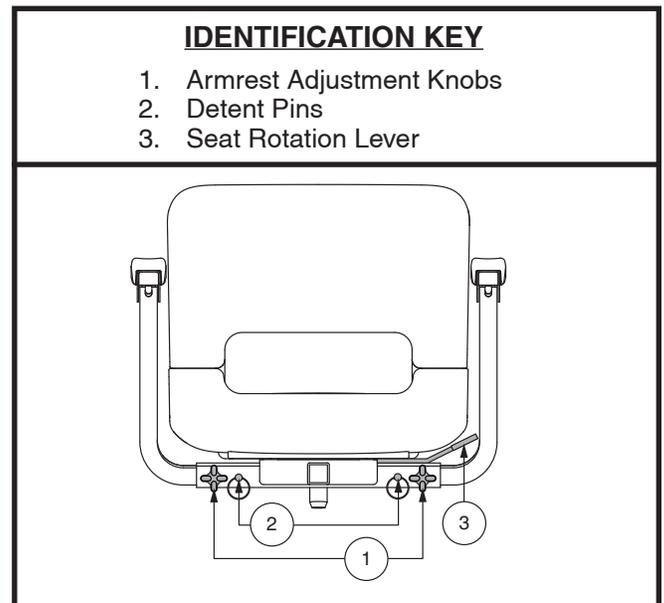

Figure 11. Seat Adjustments
1. Loosen the armrest adjustment knobs. See figure 11.